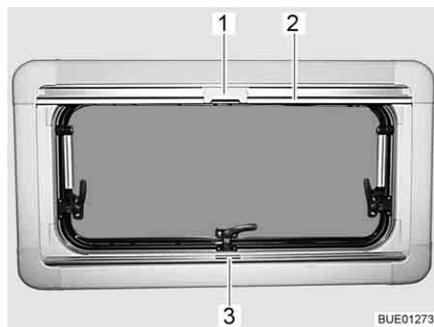

Fig. 105 Hinged window
- Grip the Roman shade in the centre of the holding bar (Fig. 105,3), pull it from the bottom to the top and then release it at the desired height. The Roman shade will stay at this height.
*Closing:* ■ Pull the insect screen down using the holding bar (Fig. 105,2), until it touches the holding bar of the Roman shade (Fig. 105,3).
■ Clip the catch (Fig. 105,1) on the insect screen into the handle of the Roman shade.
*Opening:* ■ Push the catch (Fig. 105,1) on the insect screen inwards.
■ Move the insect screen back slowly on the holding bar (Fig. 105,2).